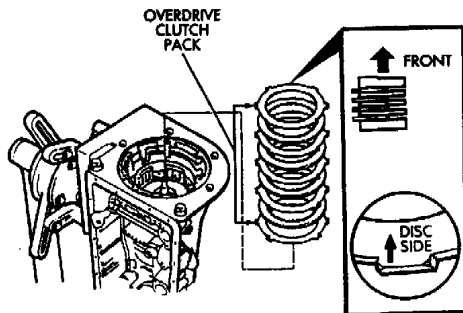

Fig. 41 Install Overdrive Clutch Pack
(50) Install overdrive clutch pack (Fig. 41). Install thickest clutch plate first. Rounded edge of plate faces